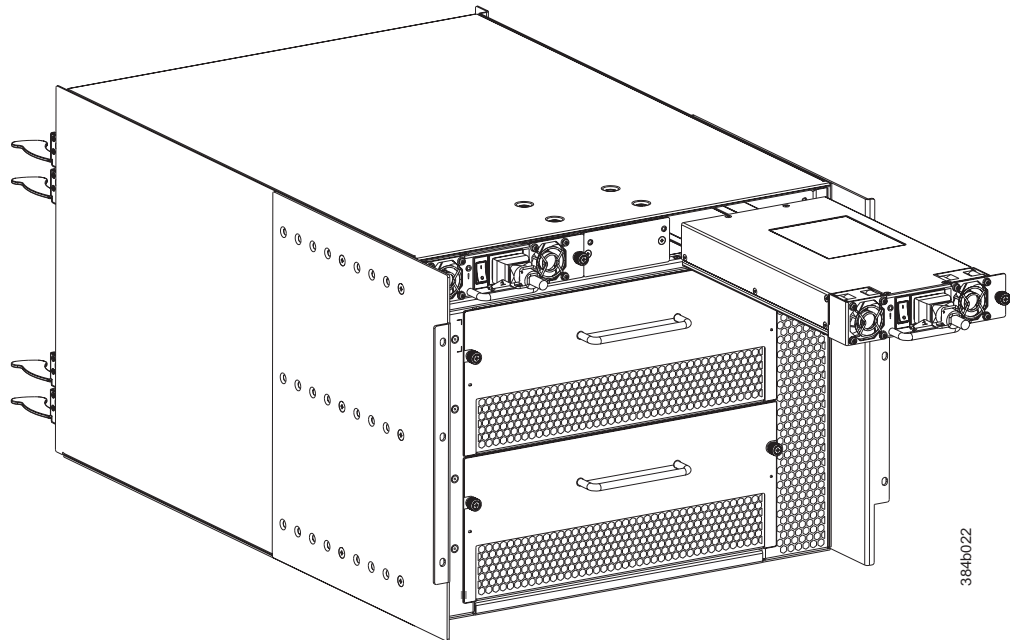

Figure 37. Removing and installing a power supply
5. Grasp the handle and pull, sliding the power supply from the chassis (see Figure 37). Support the power supply from beneath as you remove it.